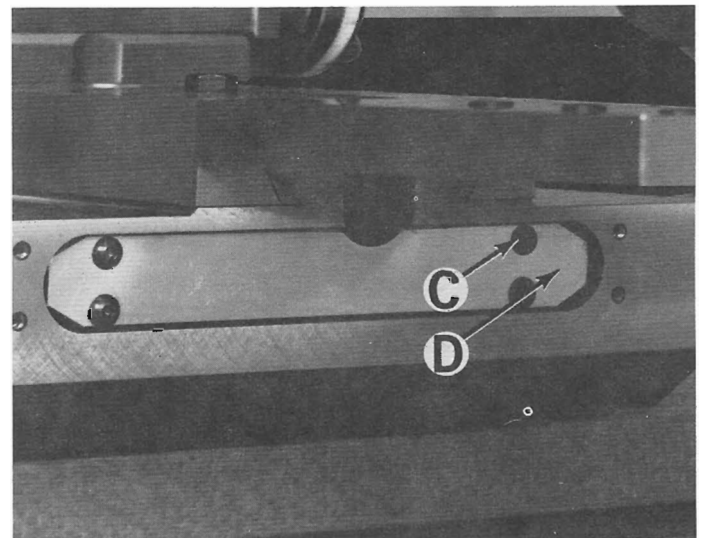

Figure 105 — Lubricator Junction Block
2. Remove four screws "C", Figure 105, and junction block "D".